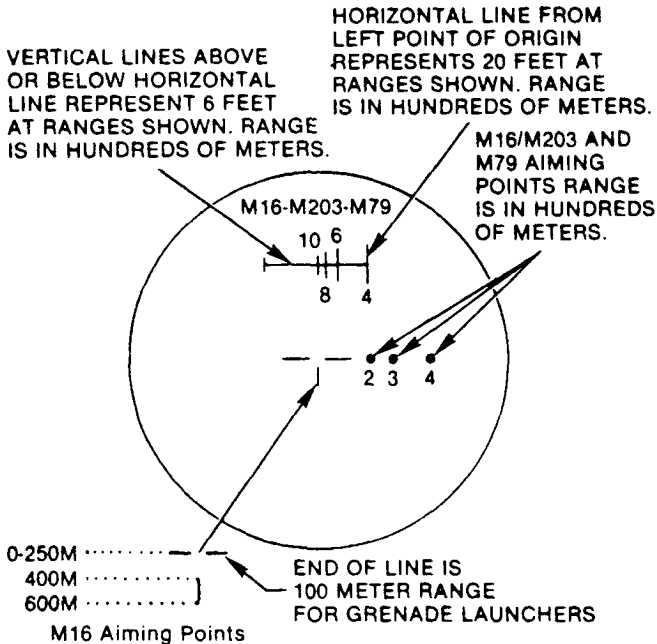

Figure 2-24. M16A1/A2, M203, and M79 Reticle Pattern
a. Reticle cell for M16A1/A2, M203, and M79 weapons (fig. 2-24 and 2-25).
(1) Vertical lines at top of reticle indicate range (in hundreds of meters) of a 6 foot tall standing person. Measurement is made from the horizontal line to the top (or bottom) of each vertical line for the range indicated.
(1) Select a stable position for the weapon.
(2) Place the sight in operation (para 2-3) and adjust the azimuth and elevation knobs to place the reticle aiming point approximately in the center of the field-of-view of the sight.
(3) Select a suitable target (normal boresight range is 200 meters) and using the proper reticle aiming point (fig. 2-24) and elevation setting for range (fig. 2-3), fire one round.